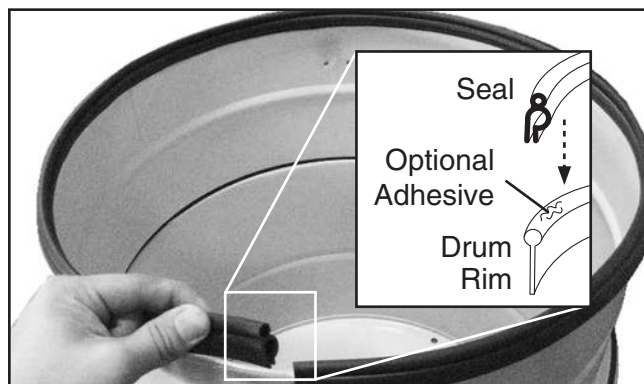

Figure 24. Installing canister seal.
15. Insert the rubber seal over the top lip of the drum rim, as shown in **Figure 24**. Pay special attention to the orientation of the seal shown in the inset of the figure.